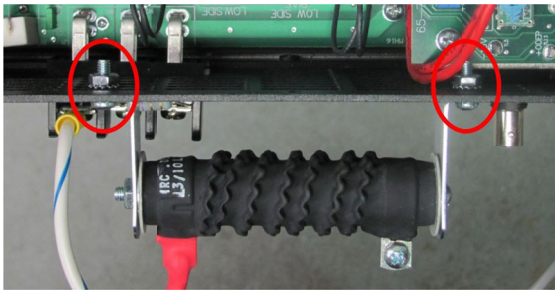

Figure B.2.17 – Mounting the Ballast Resistor
2. Position the bracket on the amplifier back-panel grill as shown in **Figure B.2.17**.